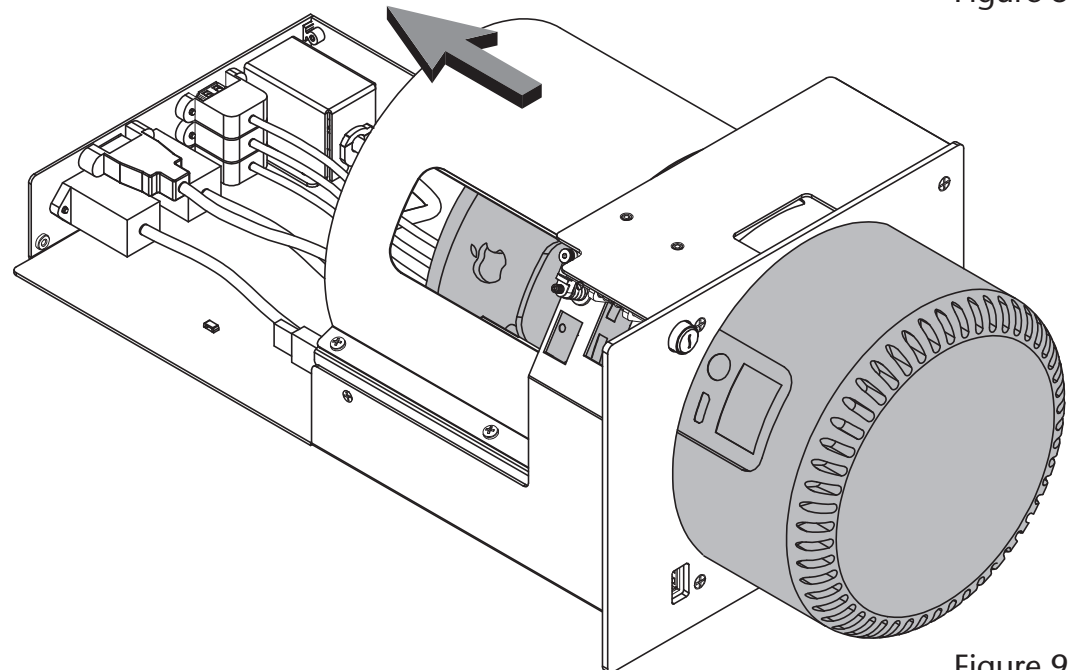

Figure 9
4. Holding the computer with its ports facing up, *very carefully* insert the computer top-first into the computer mounting module as shown, aligning the Mac Pro's ports with the openings in the module's top bracket. (Figure 9).